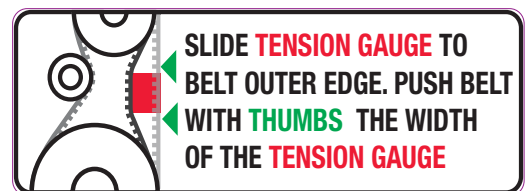

Figure 48
- **Recommended setting:** Required belt tension is 11 mm (7/16") of play, which corresponds to the width of the red tension gauge in the tensioner mechanism. See Figure 48.